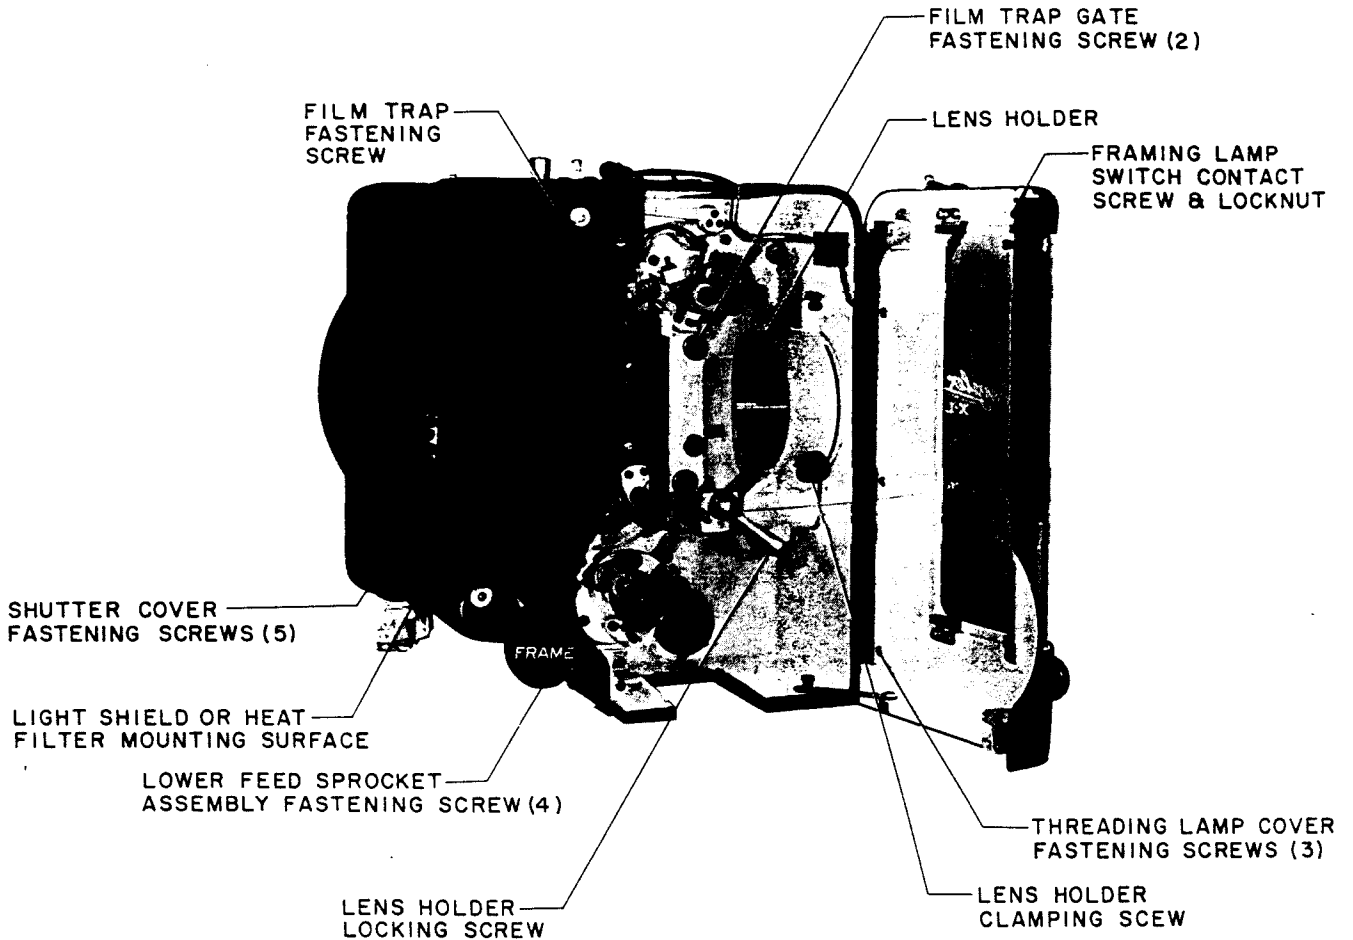

Figure 1-13
6. Light Shield (See figure 1-13.)
1) Loosen the lens holder clamping and locking screws (figure 1-13) and turn the focus adjusting knob (figure 1-2) so that the lens holder is in mid-position.
1) Loosen the lens holder clamping screw (figure 1-13) and withdraw the projection lens and adapter as a unit.